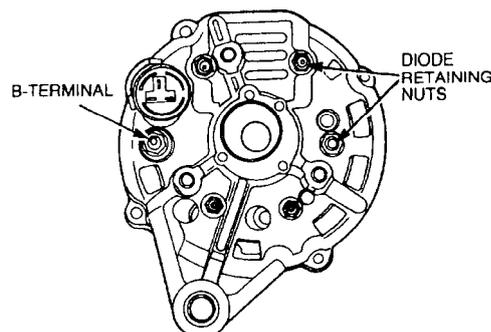

Figure 290 Removing the Diode Assembly
- (5) Remove the nut retaining the B-terminal to the rear cover (Figure 290). Remove the nuts retaining the diode holder, taking note of the insulating washer positions and remove the stator and diode assembly from the housing.